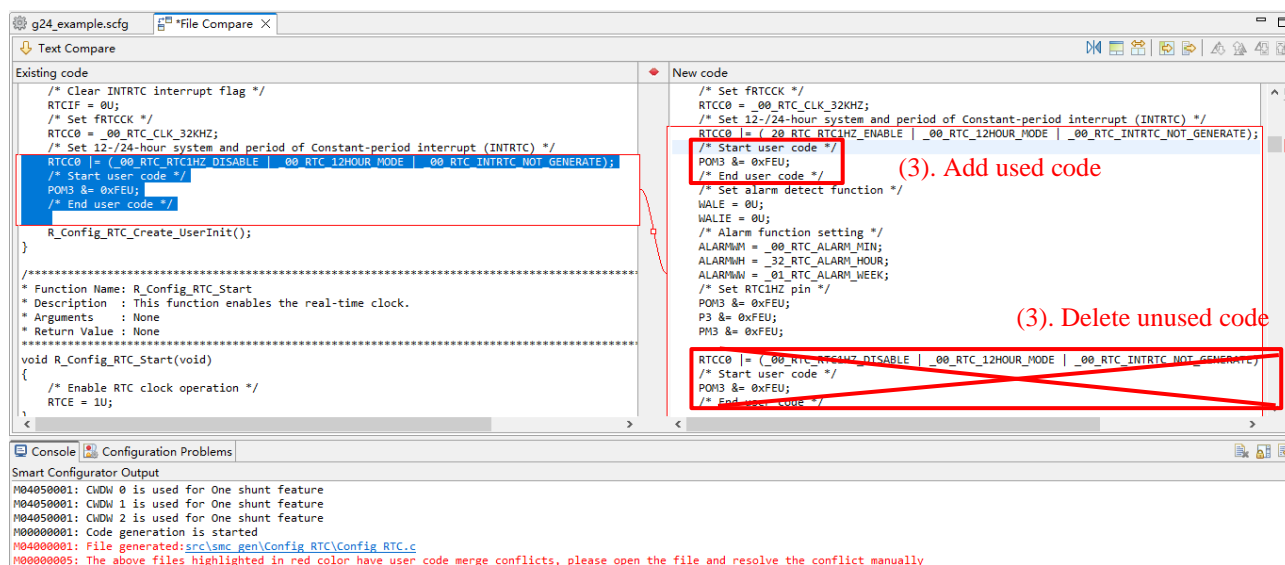

Figure 11-5 Code after Applying “Copy Current Change from Left to Right”
- (3) Delete the codes that user does not want to use (Figure 11-5 Code after Applying “Copy Current Change from Left to Right”).